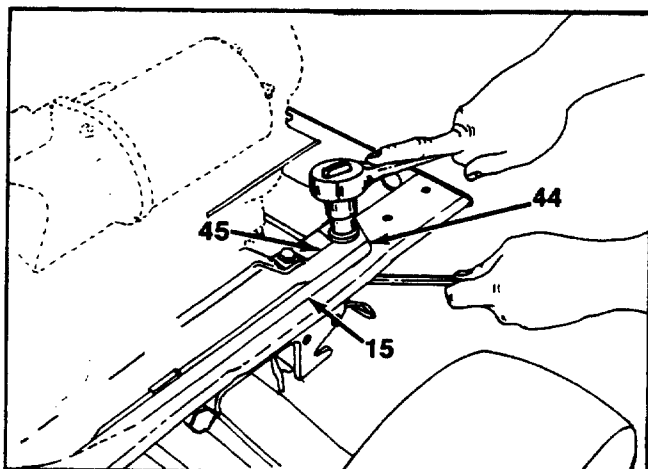

FIGURE 23.
25. Remove the four iso/mounts at chassis and engine cradle. See figure 23.